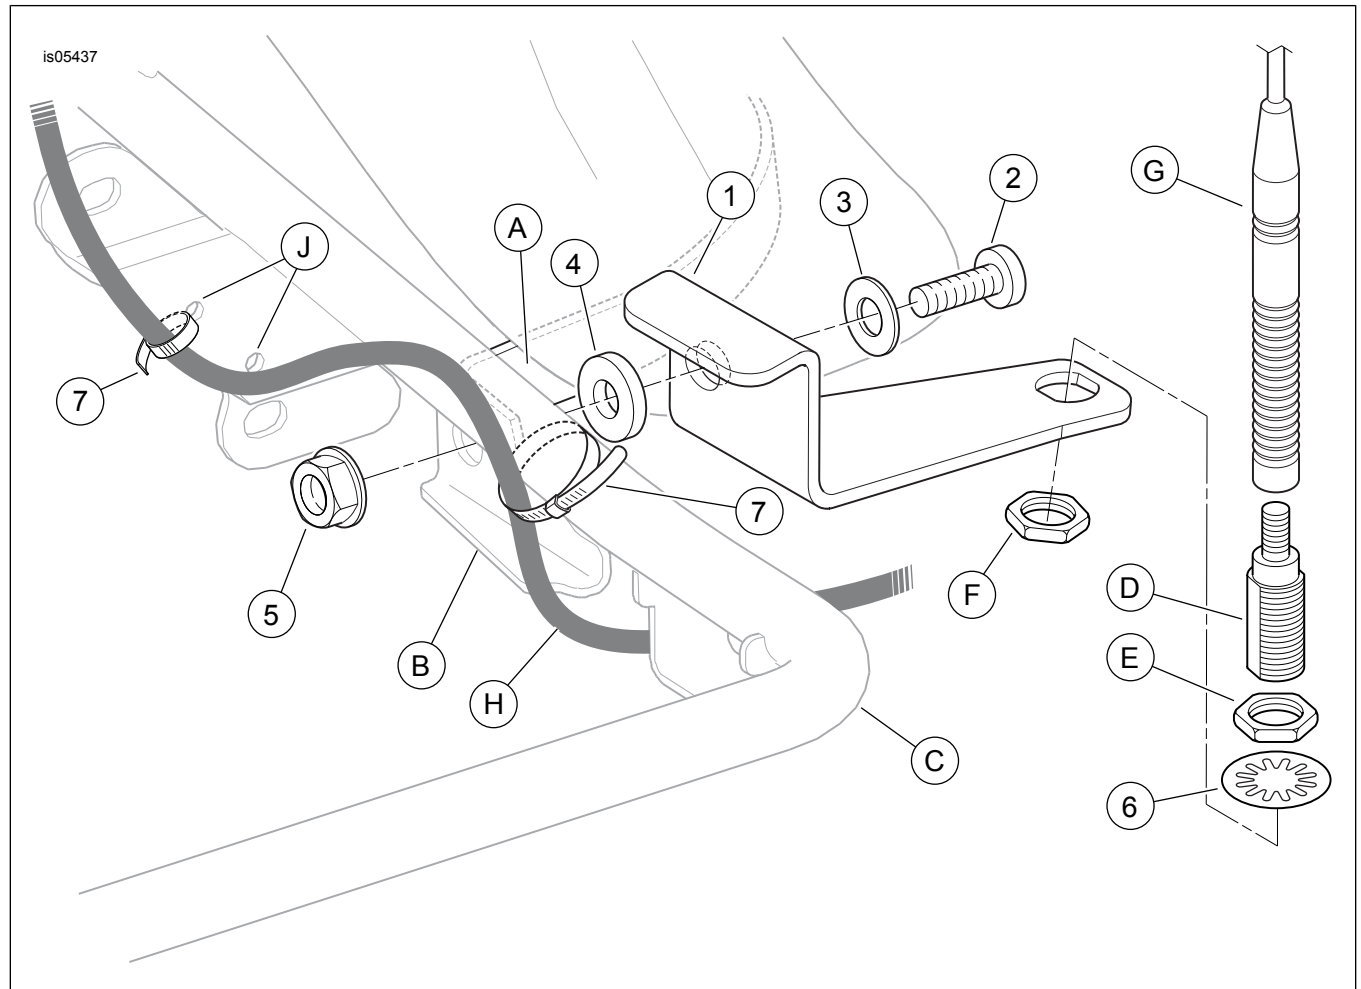

Figure 2. Service Parts, Antenna Relocation Kit
See Figure 2 and Table 1.
7. Remove and discard the TORX head screw and nut (9) that fastens the lower saddlebag support bar to the rear fender support bracket.
8. See Figure 2. Obtain the **new** antenna bracket (1), button head screw (2), flat washers (3 and 4) and flange nut (5) from the kit.